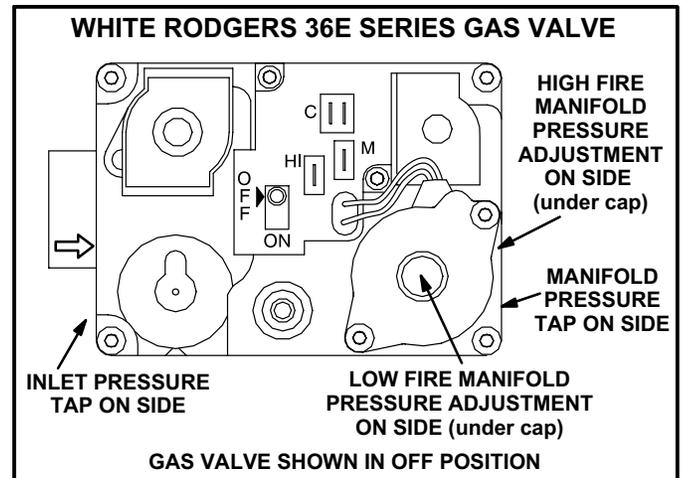

FIGURE 26
## Gas Valve Operation (Figures 26 and 27)
- 6 - *White Rodgers 36E Gas Valve* - Move gas valve control switch to **OFF**. See figure 26.
- 8 - *White Rodgers 36E Gas Valve* - Move gas valve control switch to **ON**. See figure 26.
- 2 - After the line pressure has been checked and adjusted, check the low fire and high fire manifold pressures. See figures 26 and 27 for the location of the manifold pressure adjustment screws. Low and high fire manifold pressures are given in table 29. A natural gas to LP/propane gas changeover kit is required to convert the unit.